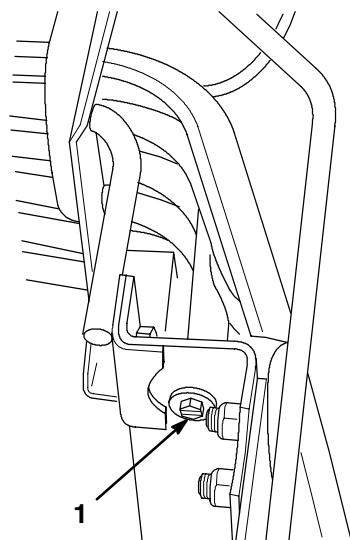

Figure 52
2. Remove the tractor’s front grille by raising the hood and unscrewing the two screws and washers securing it in place (Fig. 52). Close the hood and remove the grille by pulling it out toward you.
7. Replace the front grille of the tractor, securing it with the two previously removed screws and washers (Fig. 52).
6. Replace the front grille of the tractor, securing it with the two previously removed screws and washers (Fig. 52).
2. Remove the tractor’s front grill by raising the hood and unscrewing the two screws and washers securing it in place (Fig. 52). Close the hood and remove the grille by pulling it out toward you.
5. Replace the front grille of the tractor, securing it with the two previously removed screws and washers (Fig. 52).